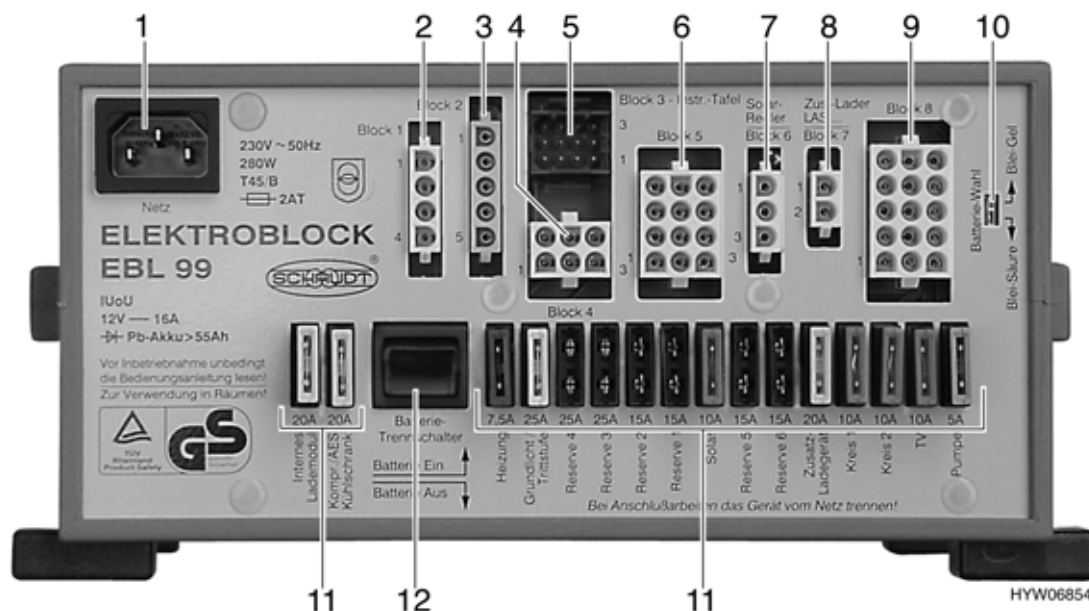
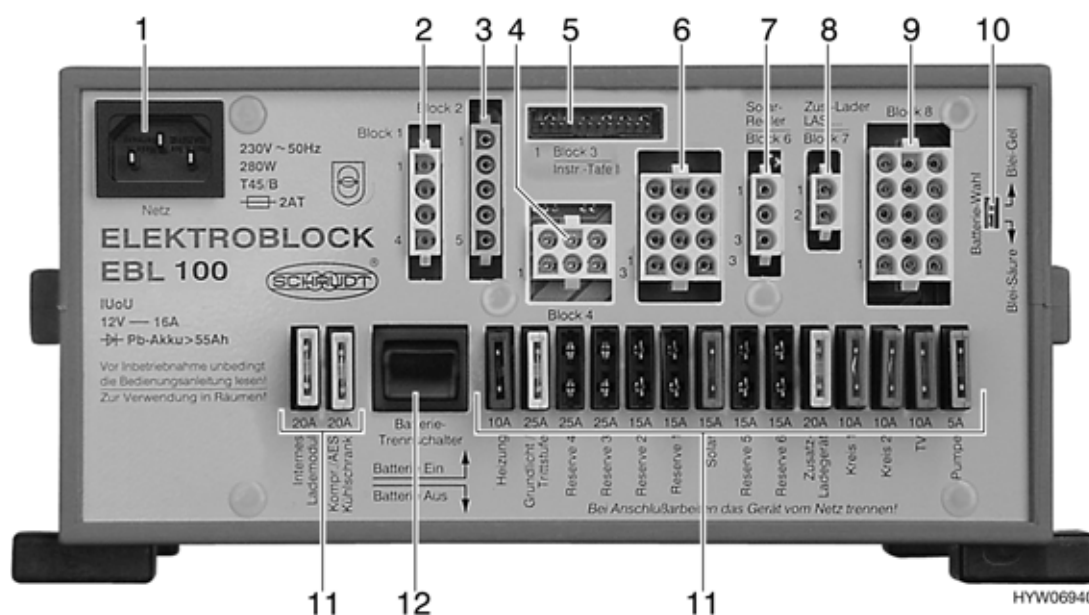

Fig. 105 Transformer/rectifier EBL 99 (variant 1)
Fig. 106 Transformer/rectifier EBL 100 (variant 2)
The battery cut-off switch (Fig. 105,12 or Fig. 106,12) disconnects all the living area 12 V appliances, even the safety/drainage valve of the heater. This prevents the living area battery from slowly discharging if the motorhome is not used for a longer period of time (e. g. temporary lay-up).
- ▷ The factory settings of the battery selector switch (Fig. 105,10 or Fig. 106,10) ("dryfill") must not be changed.